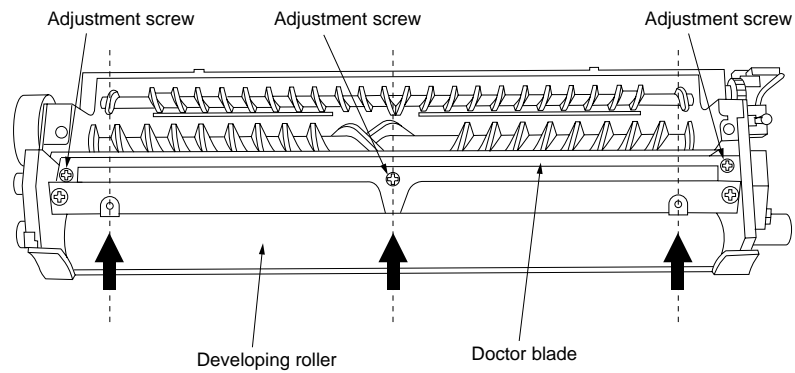

Figure 3-3-64
3. Measure the distance between the developing roller and the doctor blade with a thickness gauge as shown in Figure 3-3-64, and adjust the doctor blade until the correct distances are obtained at the center and ends of the developing unit housing; the 0.50 mm gauge should go into the gap and the 0.55 mm one should not.